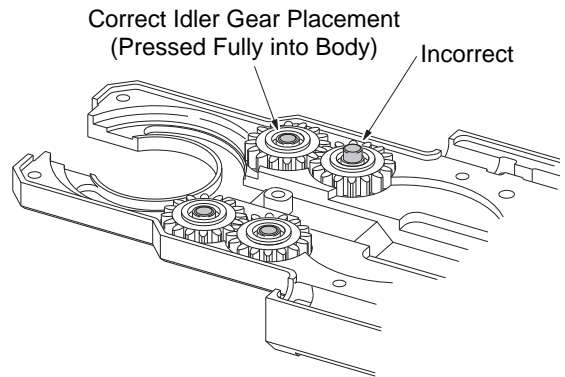

Figure 34 Correct Placement of Idler Gears in Micro Weld Head Housing
11. Replace the idler gears in the micro weld head housing. Verify the idler gear axles are pressed into the body. See Figure 34.